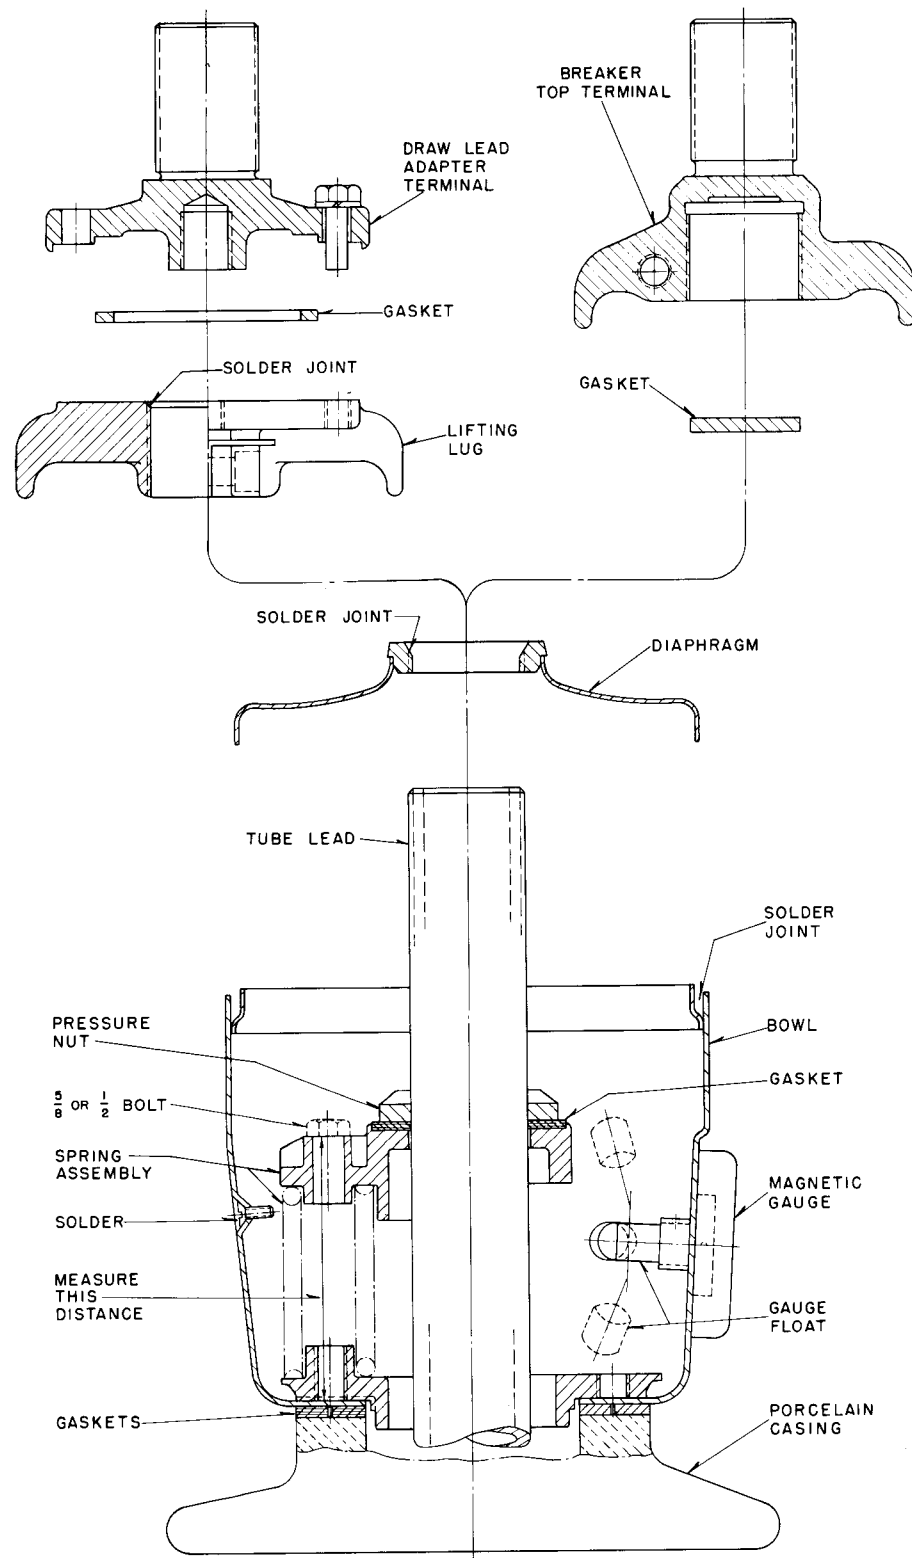

Fig. 7. Sectional View—Bushings Expansion Bowl
4. Unsolder the joints at the (diaphragm - tube lead) and (diaphragm - bowl) per Fig. 7. Be sure to burn and buff all solder from the threads in the tube lead above the top of the bowl.
7. Measure distance between spring plates (Shown in Fig. 7).
7. Adjust bolts in the spring assembly to give $3/32$ less than measured in step #7 under dismantling. Place the spring assembly in the cap and position it on the top porcelain. Tighten the pressure nut (Fig. 7). Remove the bolts in the spring assembly. It may be necessary to repeat the clamping and adjusting of the spring pressure nut to attain the desired setting - distance measured less $3/32$ (Fig. 7). Contact your Westinghouse representative concerning questions about the setting or compression of the springs.
8. Solder joints at lifting nut, diaphragm, etc., as shown in either Fig. 7 to seal cap.